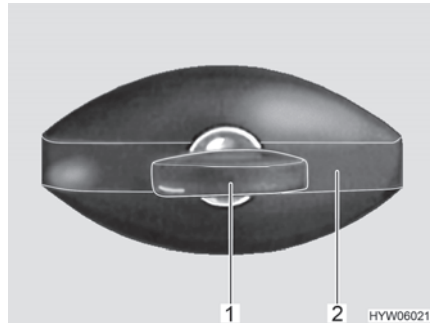

Fig. 27 Flap lock (elliptical-shaped, closed)
- Insert key into locking cylinder (Fig. 27,1) and turn a quarter turn in an anticlockwise direction. The lock handle (Fig. 27,2) snaps out.